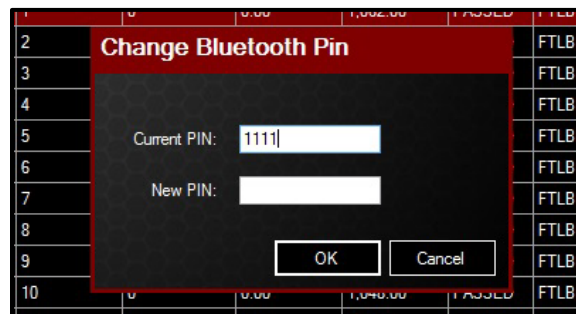

Figure 5.8-2: Changing the Bluetooth Pin
- A dialog box will ask to confirm the old pin and set a new pin (Figure 5.8-2).